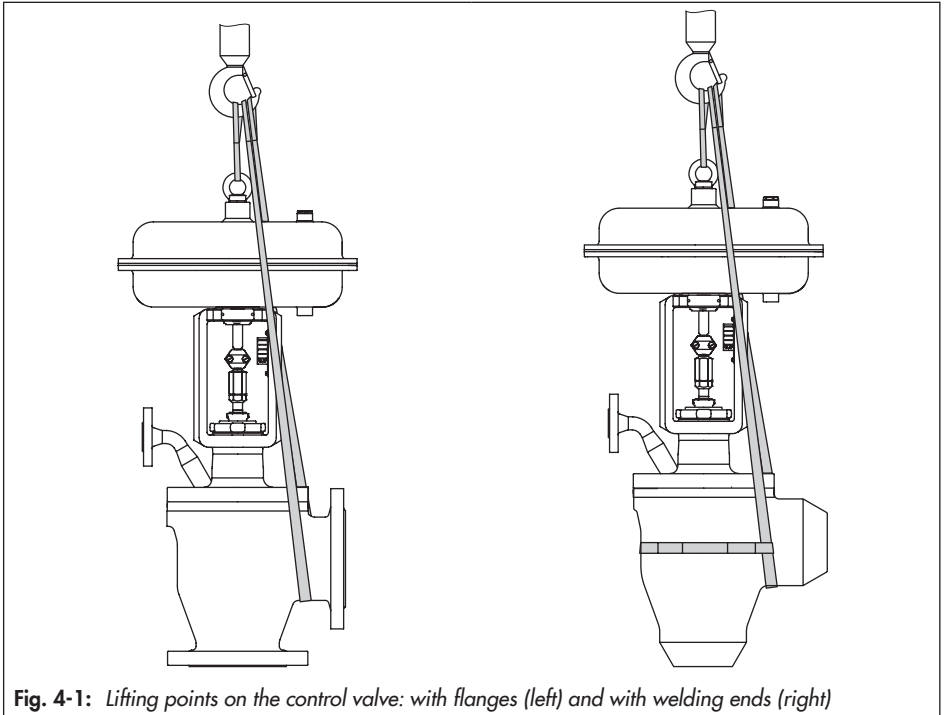

Fig. 4-1: Lifting points on the control valve: with flanges (left) and with welding ends (right)
- Use a hook with safety latch (see Fig. 4-1) to secure the slings from slipping off the hook during lifting and transporting.
1. Attach one sling to each flange of the body and to the rigging equipment (e.g. hook) of the crane or forklift (see Fig. 4-1).
1. Attach one sling to each welding end of the body and to the rigging equipment (e.g. hook) of the crane or forklift (see Fig. 4-1).